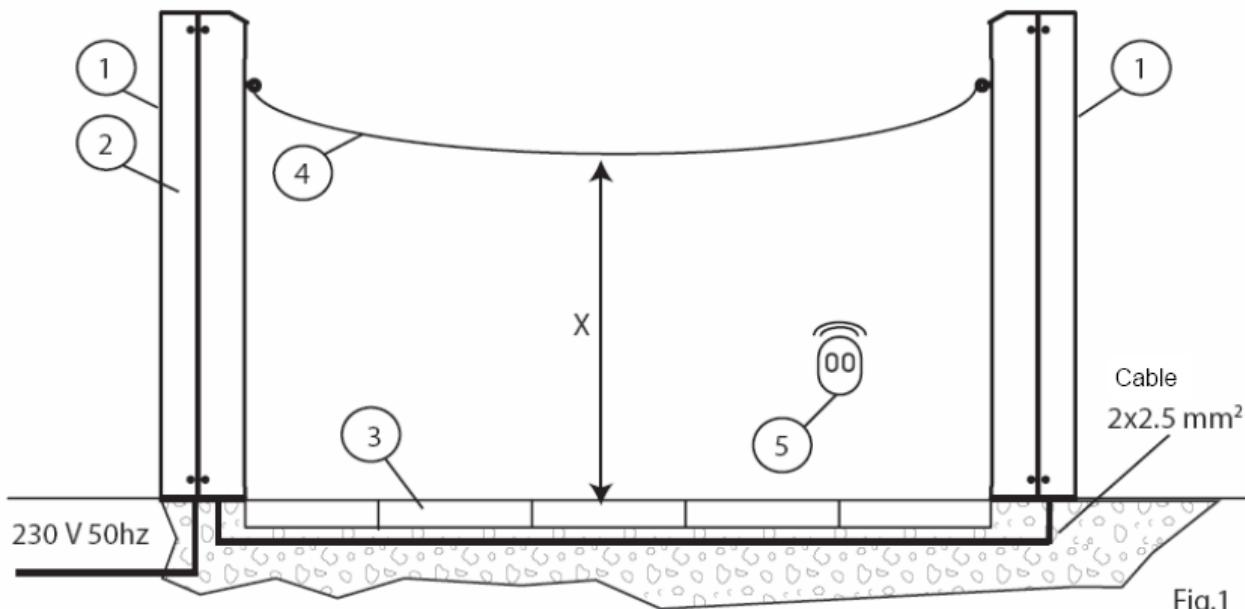
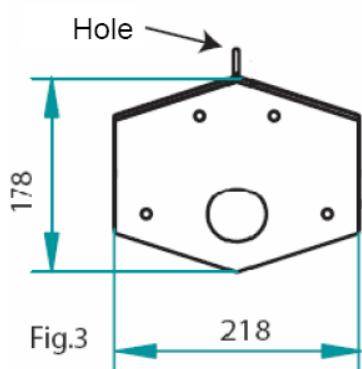
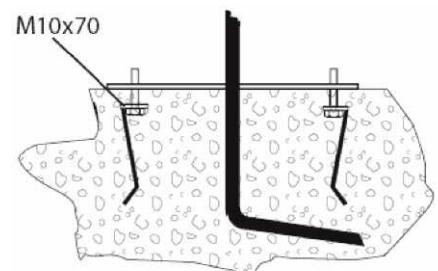

Fig.1
Fig.4
Fig.3
#### **3.2. Installation of the column ( Fig. 1, Fig. 3, Fig. 4)**
2. Place than the base on the previously prepared base of cement (Fig.3)
5. Unscrewing the 8 screws [10] take off the frontal [8] and the rear cover [9] of the column (Fig. 4 )